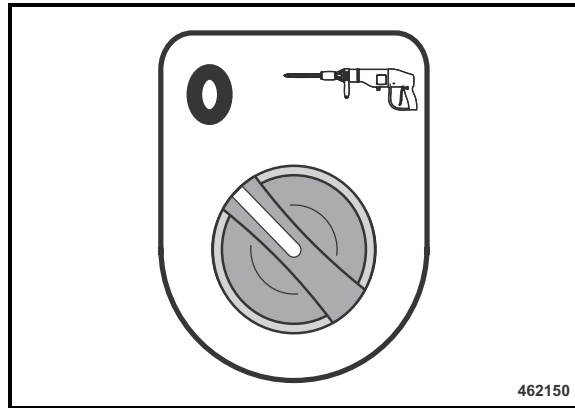

Fig. 97
- Turn the rotary switch for hydraulic breaker (Fig. 97) anti-clockwise to position "0".